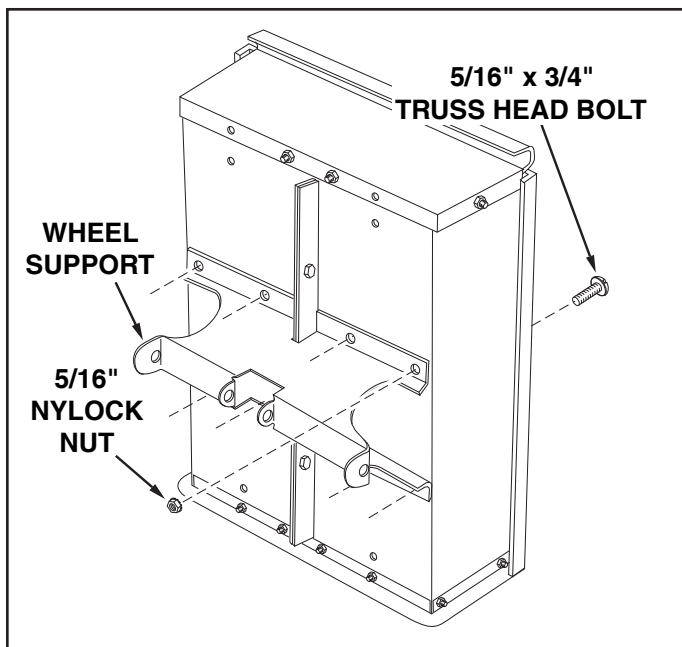

FIGURE 6
10. Assemble the wheel support to the cart using eight 5/16" x 3/4" truss head bolts and 5/16" nylock nuts as shown in figure 6. Heads of bolts go to the inside of cart bed. **Tighten**.